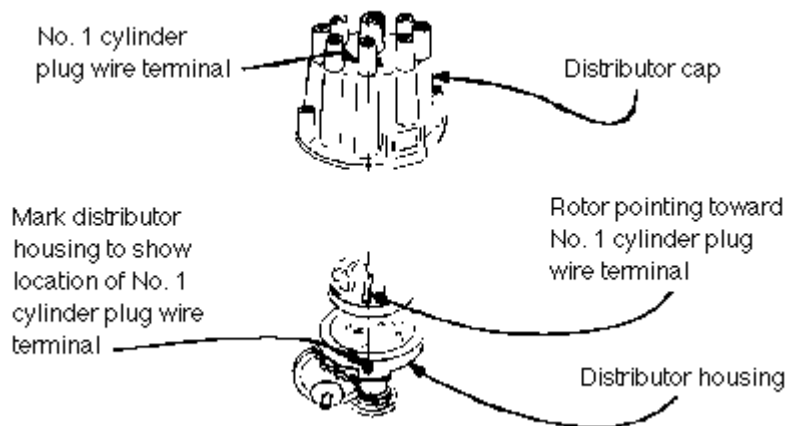

Figure 12
5. See Figure 12 for correct positioning of rotor and ignition on No. 1 cylinder.